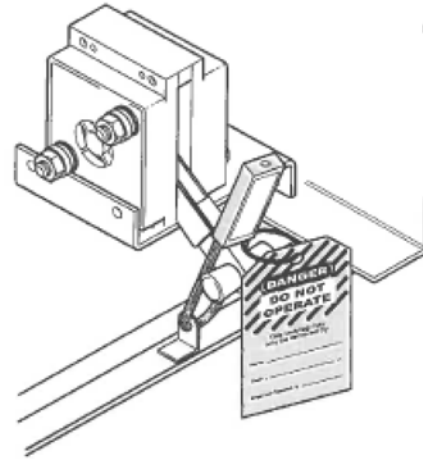

Figure 9-2, Battery Disconnect Switch Safety Padlock
Always turn off the battery disconnect switch before doing any work on any part of the electrical system. Use the battery disconnect switch safety padlock 13-55437-000 or 13-55437-001, included with your bus, so that power isn't inadvertently turned back on while you're working. (See Figure 9-2.)
- Install the lock and tag (if required) to the battery disconnect switch (see Figure 9-2).